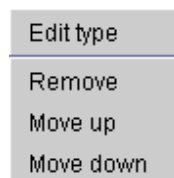

Figure 48 : Contextual menu
- Position the cursor on a line and click with the mouse right button to display the contextual menu (Figure 48).